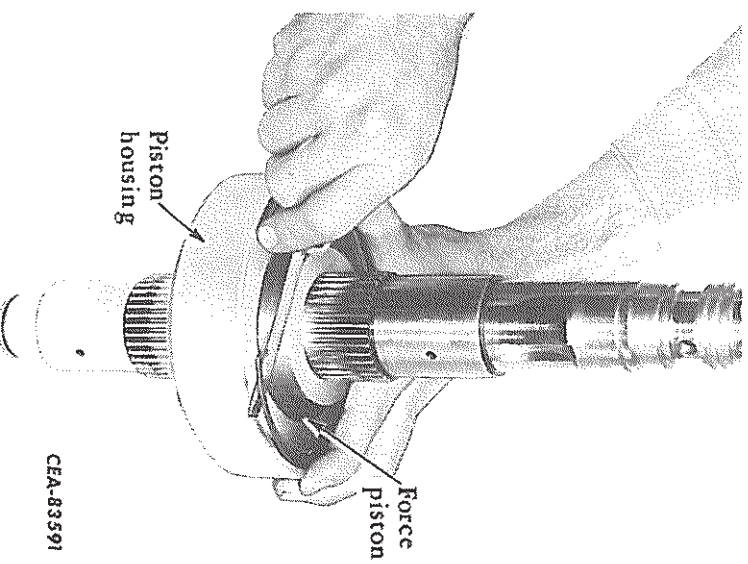

FIG. 52 — Removing the Force Piston Internal Snap Ring
41. Place the shaft on end so the force piston is up. Remove the internal snap ring from the groove in the piston housing using a screwdriver or other suitable tool (Fig. 52).